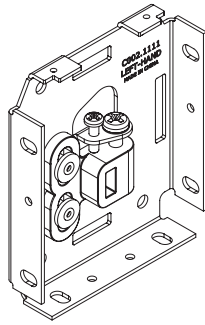

Figure 11
- ⑱ Slide both ends of the draw cable close to the attachment stud flat washers, then, raise the shade to its fully closed position and insure that the hem-bar is centered in the window. The position may be adjusted by sliding one or both of the draw cable attachment studs to the left or right.
- ⑲ Lower the shade to its fully retracted position and observe the tracking on the fabric roller. Adjust the tracking by loosening the smaller screw, then, raising or lowering the fabric roller with the larger screw, as needed (see Fig. 11).